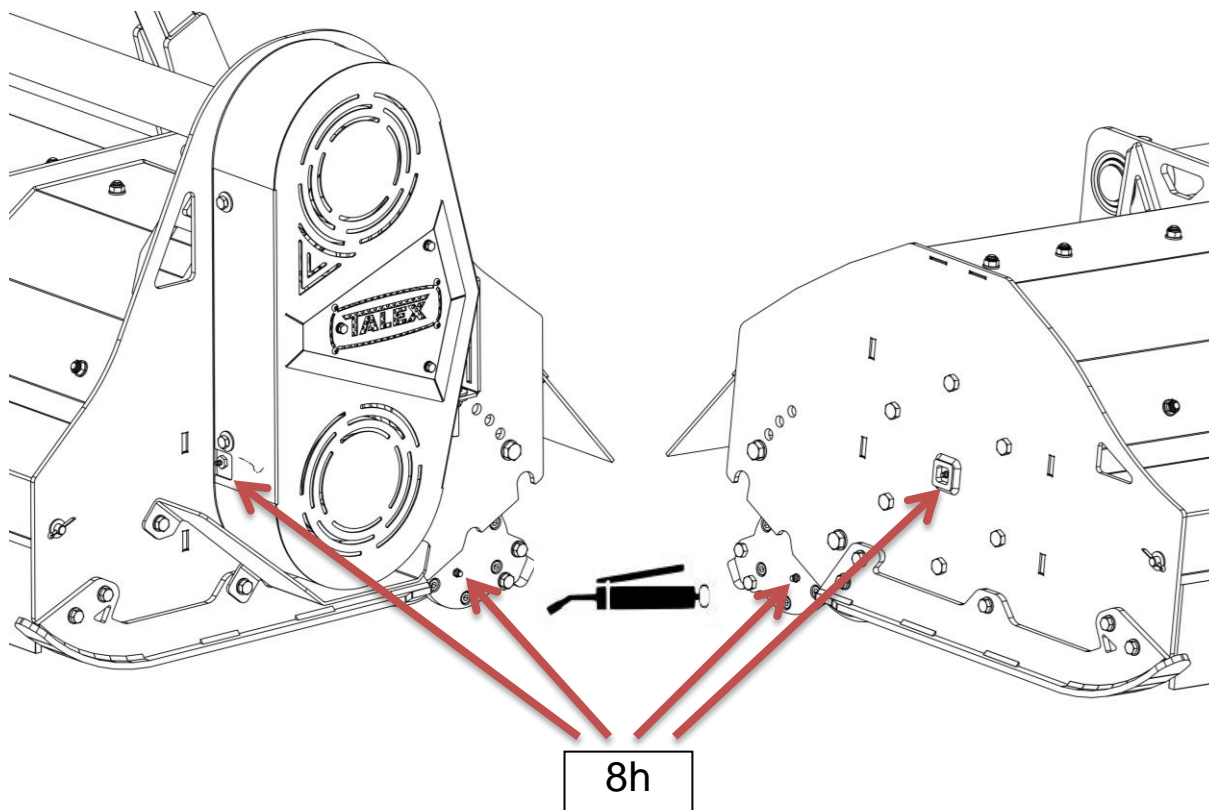

Figure 13. Lubrication diagram
All points indicated in Fig. 13, equipped with ball type grease fittings, should be filled with solid grease ŁT43 using of a lubricating gun. Lubricate the jointed-telescopic shaft after removing it from the machine. Lubricate the telescopic part of the shaft at least after 8 hours of operation - when the shaft is entirely moved apart and impurities have already been cleaned. Details of PTO shaft operation are contained in a separate manual supplied with it.
- lubricate the machine according to the lubrication diagram (Fig. 13),